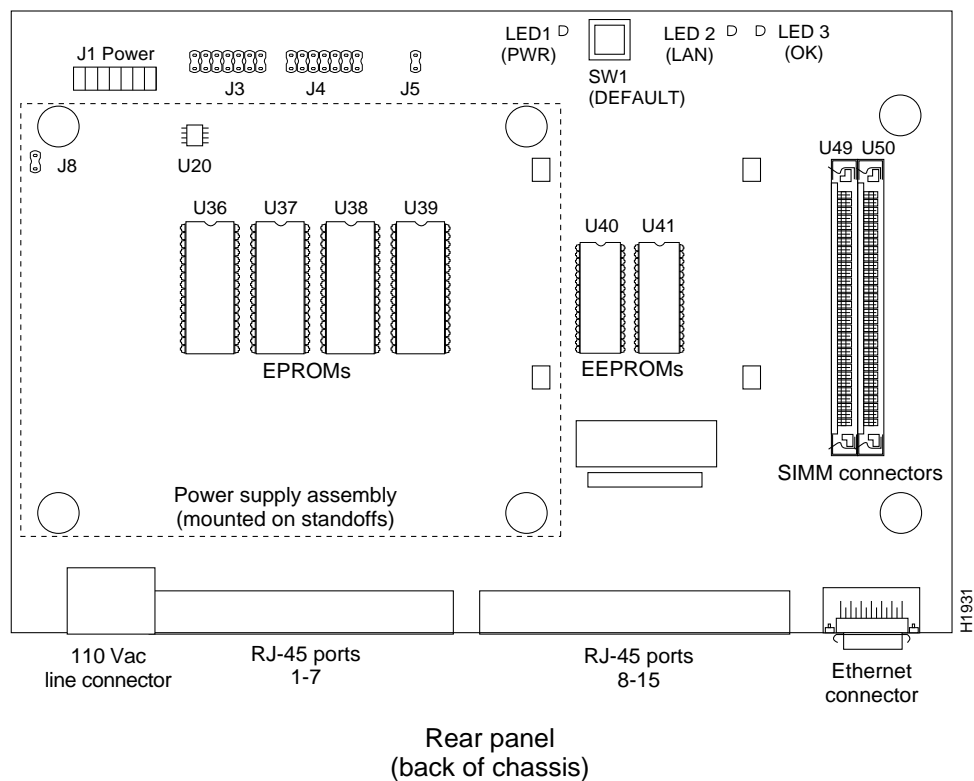

Figure 1 500-CS System Card
The system card and the location of the major components and jumpers are shown in Figure 1.
The 500-CS contains two MB of RAM permanently soldered onto the system card. The two RAM expansion sockets, U49 and U50 (see Figure 1), allow you to upgrade your server RAM to four MB (by adding two 1-MB SIMMs) or to ten MB (by adding two 4-MB SIMMs). The two expansion slots must both be empty, or both be populated with SIMMs of the same size and speed. Each of the three options is illustrated in Figure 3. Memory upgrade kits are available from your local sales representative or customer service, or you can add SIMMs that you obtain from an approved supplier. A list of approved suppliers is provided on page 3.
You will install a new SIMM in each of the two RAM expansion slots, U49 and U50, shown in Figure 1. If the expansion slots in your server are empty (your system currently contains a total of 2 MB of RAM), skip the procedure “Removing Existing SIMMs” and proceed to “Installing New SIMMs” on page 10. Place removed SIMMs on an antistatic mat and store them in an antistatic bag (unless you are replacing a failed SIMM). The SIMMs can be reused in compatible equipment.
- Step 2** On the system card, locate RAM expansion slots U49 and U50 (see Figure 1). Both slots should contain a SIMM card.
- Step 3** Turn the chassis so that the side with the RAM expansion slots is closest to you, and the slots are oriented horizontally (rotated 90 degrees clockwise from the orientation shown in Figure 1).